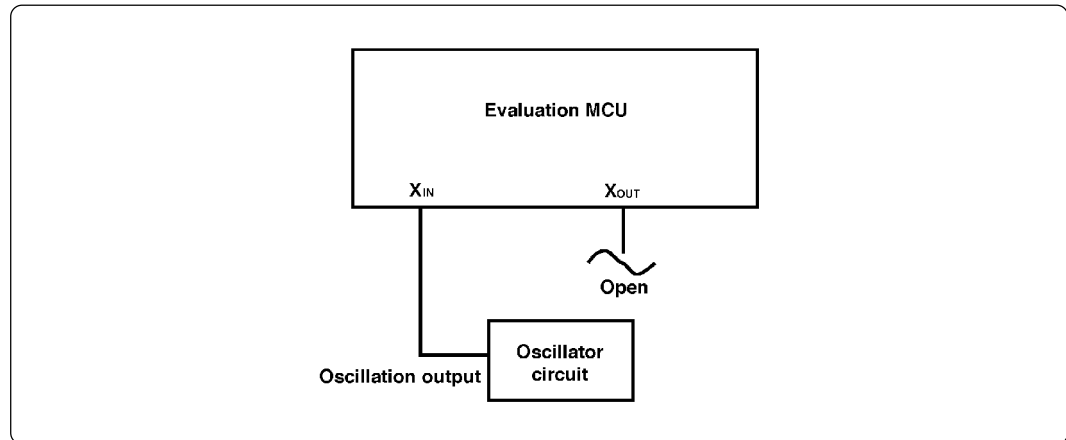

Figure 3.6 External oscillator circuit
- To operate the emulation pod with an external clock, construct the oscillator circuit as shown in Figure 3.6 in the target system and input the oscillator output at 50% duty (within the operating range of the evaluation MCU) into pin X_{IN} . And pin X_{OUT} should be open.